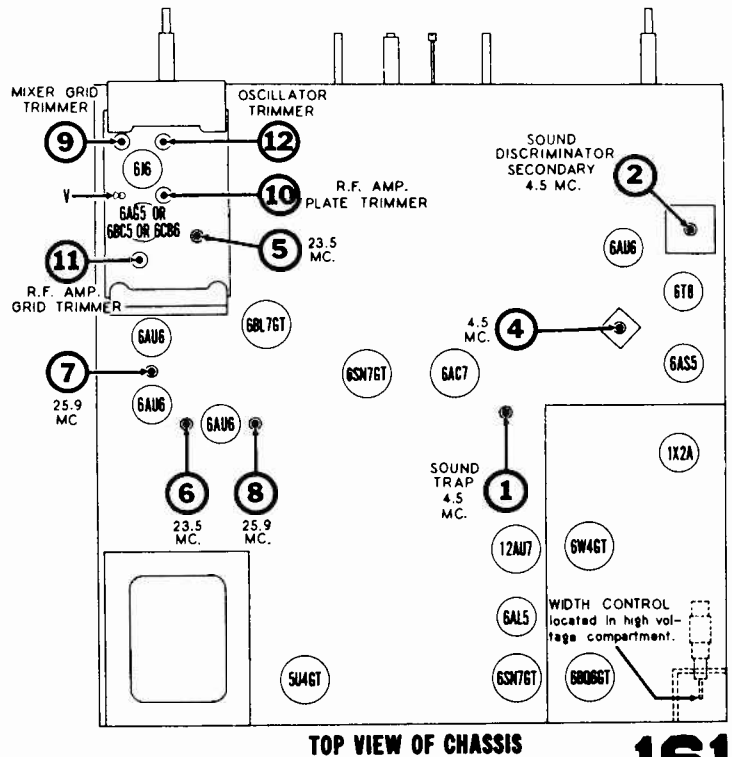

FIG. 14
1. A special aligning tool designed to fit the stems on adjustable cores of the IF and Trap coils (see points 5, 6, 7 and 8 in Fig. 14) is available and may be obtained from Stewart-Warner by requesting IF Alignment Tool #507479.